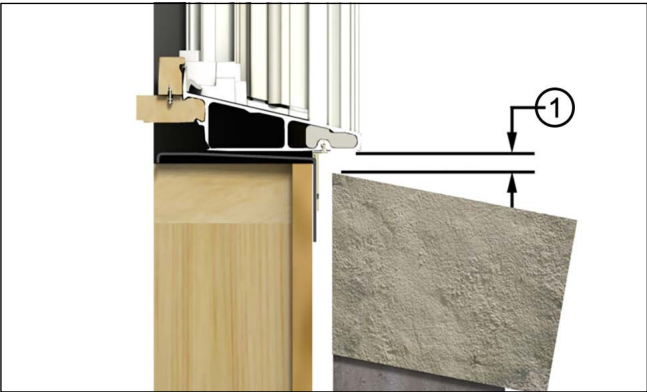

Figure 4
NOTE: On standard wood frame construction with brick veneer, make sure there is at least 1/2" (13) between the bottom of the window sill (or eventual placement of the window) and the top of the brick to avoid "brick bind". See Figure 4.